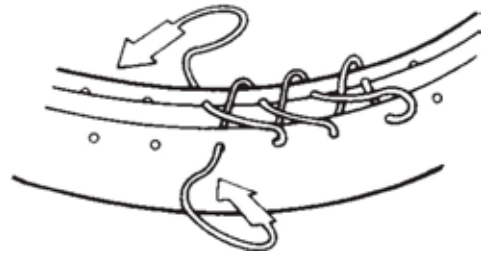

Figure 4
4. Use two needles. Thread each lacing end with a needle. Insert one threaded needle through a front hole between the edges and directly across through the rear hole. Pull lacing to where each end is of even length. Insert the threaded needle from the rear hole and go diagonally across threading it through the next front hole. Then insert the other threaded needle from the front hole and go diagonally across threading it through the next rear hole. Refer to figure 4. Pull this first complete stitch tight as you lace and making sure the edges of cover are joined together with no gap.